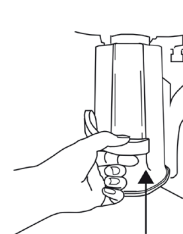

Figure 3
2. Pull up the handle to lock the canister to the breathing system (see Figure 3).